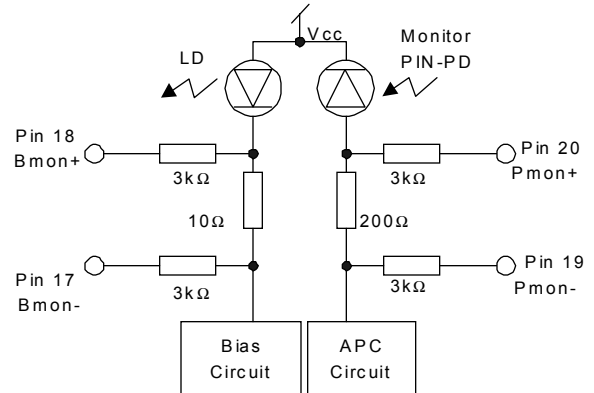

Figure 13. Bmon and Pmon Interface
2. Refer to figure 13 for details of Bmon and Pmon outputs.
9. The Laser Bias Monitor Current and Rear Facet Monitor Current are calculated as ratios between the corresponding voltages and current sensing resistors, 10Ω and 200Ω, as shown in the figure 13.